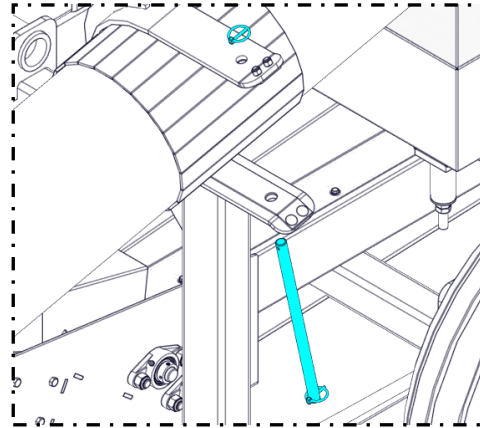

Figure 4.13
- B) Slide the auger retaining rod off the auger rest (Figure 4.13).